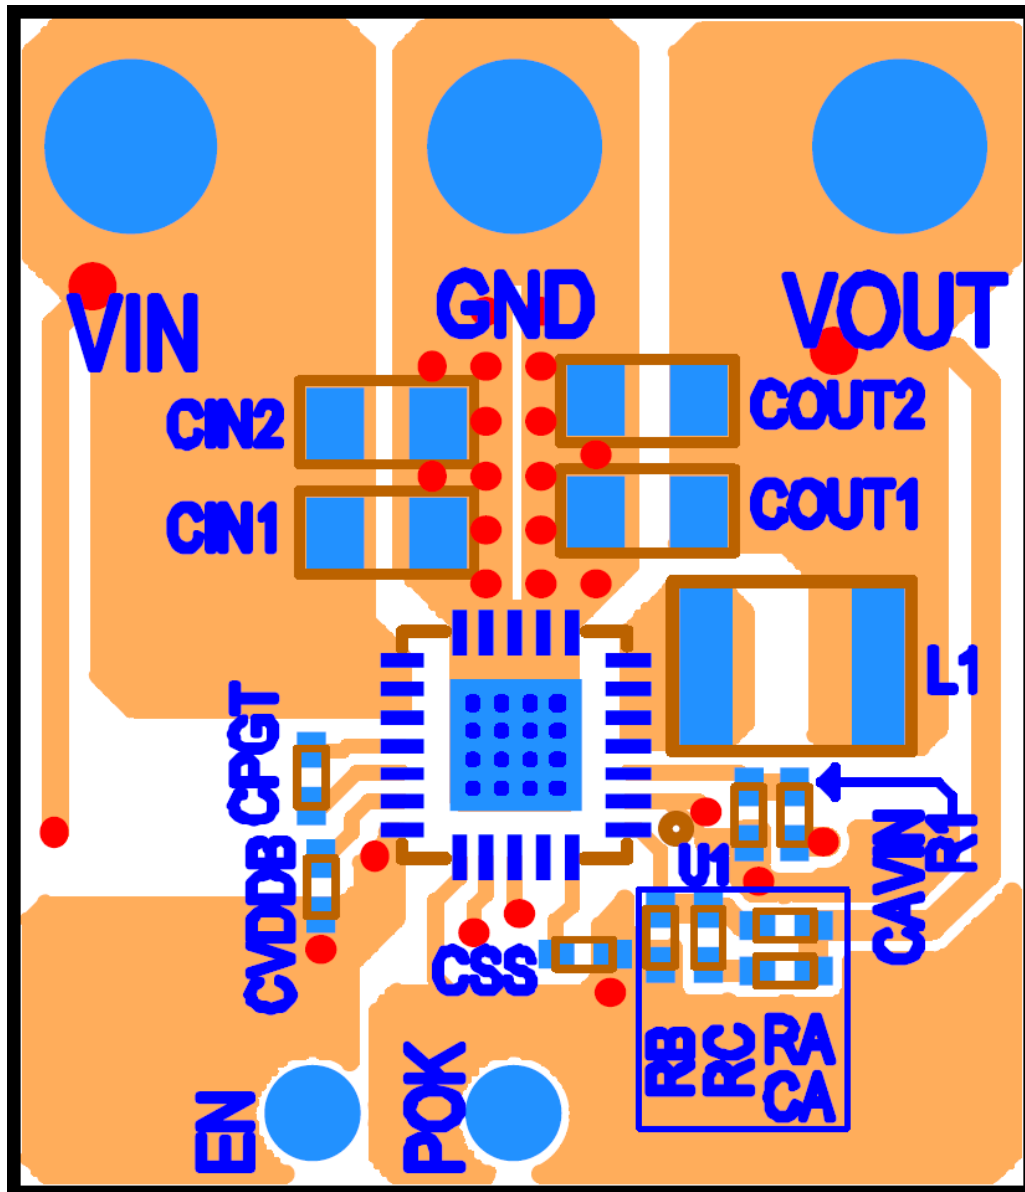

Figure 12: Top PCB Layer Critical Components and Copper for Minimum Footprint (Top View)
Figure 12 shows critical components and layer 1 traces of a recommended minimum footprint ER6230QI layout. ENABLE and other small signal pins need to be connected and routed according to specific customer application. Visit the Enpirion Power Solutions website at [www.altera.com/powersoc](http://www.altera.com/powersoc) for more information regarding layout. Please refer to this Figure 12 while reading the layout recommendations in this section.
**Recommendation 2:** Half of the PGND pins are dedicated to the input circuit and the other half to the output circuit. The slit shown in Figure 12 separating the input and output GND circuits helps minimize noise coupling between the converter input and output switching loops.
**Recommendation 4:** The large thermal pad underneath the device must be connected to the system ground plane through as many vias as possible. The drill diameter of the vias should be 0.33mm, and the vias must have at least 1-oz. copper plating on the inside wall, making the finished hole size around 0.2mm to 0.26mm. Do not use thermal reliefs or spokes to connect the vias to the ground plane. This connection provides the path for heat dissipation from the converter. Please see Figure 12.
**Recommendation 5:** Multiple small vias (the same size as the thermal via discussed in recommendation 4) should be used to connect ground terminal of the input capacitor and output capacitors to the system ground plane. Put the vias under the capacitors along the edge of the GND copper closest to the Voltage copper. Please see Figure 12. These vias connect the input/output filter capacitors to the GND plane, and help reduce parasitic inductances in the input and output current loops. If the vias cannot be placed under  $C_{IN}$  and  $C_{OUT}$ , then put them just outside the capacitors along the GND slit separating the two components. Do not use thermal reliefs or spokes to connect these vias to the ground plane.
**Recommendation 6:** AVIN is the power supply for the internal small-signal control circuits. It should be connected to the input voltage at a quiet point. In Figure 12 this connection is made at the input capacitor furthest from the PVIN pin and on the input source side. Avoid connecting AVIN near the PVIN pin even though it is the same node as the input ripple is higher there.
**Recommendation 8:** Keep  $R_A$ ,  $C_A$ ,  $R_C$  and  $R_B$  close to the VFB pin (see Figure 12). The VFB pin is a high-impedance, sensitive node. Keep the trace to this pin as short as possible. Whenever possible, connect  $R_B$  directly to the AGND pin instead of going through the GND plane. The AGND should connect to the PGND at a single point from the AGND pin to the PGND plane on the 2nd layer.
**Recommendation 9:** The layer 1 metal under the device must not be more than shown in Figure 12. See the following section regarding Exposed Metal on Bottom of Package. As with any switch-mode DC-DC converter, try not to run sensitive signal or control lines underneath the converter package on other layers.